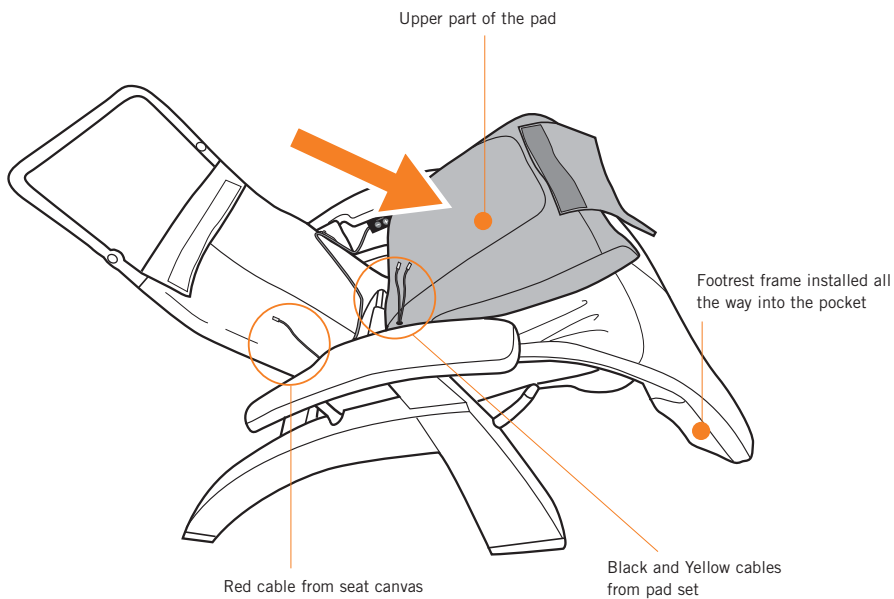

Fig.13
11. Slide the body pad onto the footrest frame, making sure the frame slides into the pockets on the bottom corners of the pad (Fig.13).
12. Fold the upper part of the pad forward onto the seat (Fig.13).